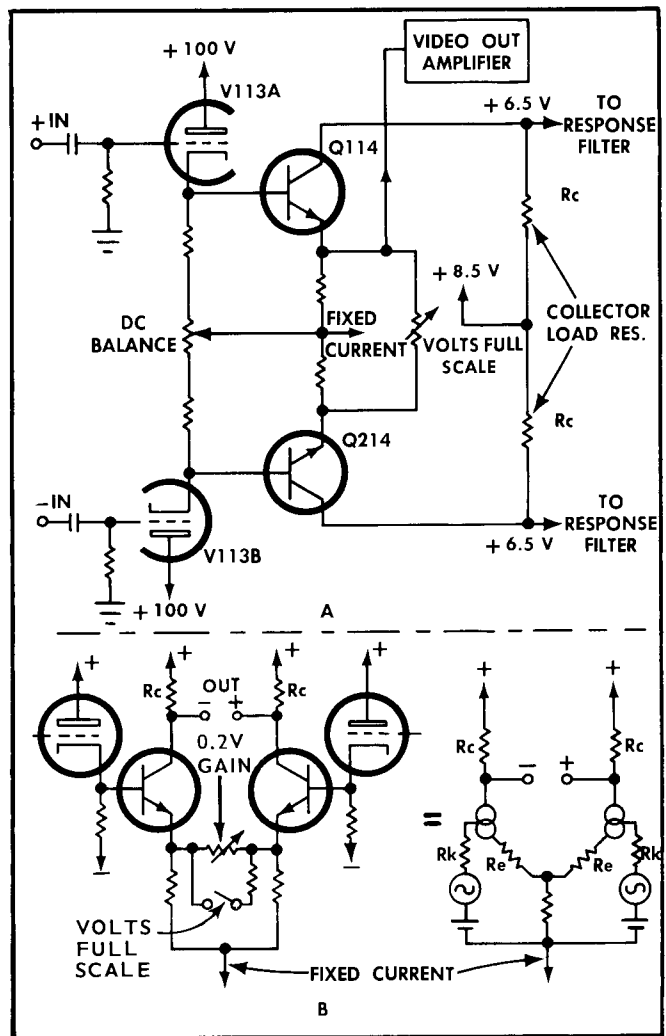
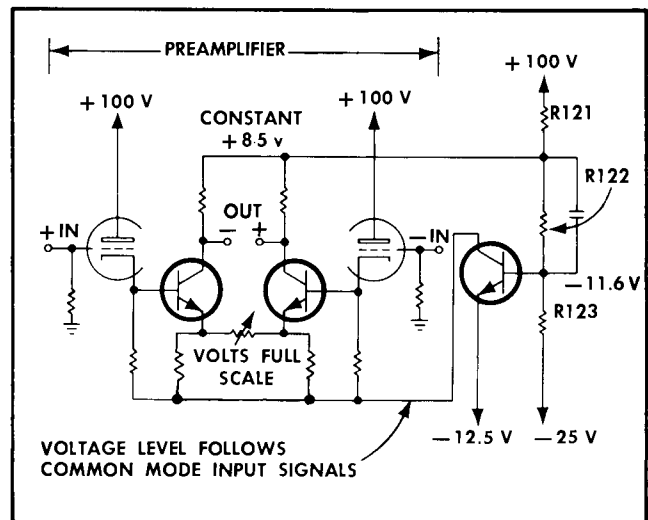

Fig. 3-2. Simplified circuit (SN 1600-up). Some circuit values are different in earlier SN instruments.
Fig. 3-3. Simplified constant current stage connections on preamplifier.
**Constant Current Stage.** The constant current stage cancels any push-pull output from the preamplifier in the event both input leads receive equal amplitude-equal polarity signals. The circuit causes the voltage of the constant current leads of Fig. 3-2 to shift and follow any common-mode input voltages. (The high collector resistance of Q114 and Q214 prevents any change in the preamplifier output voltage.) Fig. 3-3 shows simplified connections between the constant current stage and the preamplifier. Assume both input leads to be positive. The result is that both collector-load resistors receive an increase in current. The increased current pulls down on R121. R122 divides the change to the base of Q124. Q124 base goes negative and causes its collector to go positive an amount equal to the original common-mode signal. This cancels its effect and returns the current in the collector-load resistors to the original value. The input cathode followers' negative supply is the same as Q114-Q214 negative supply, to assure signal linearity in the event of common-mode signal cancellation by Q124.